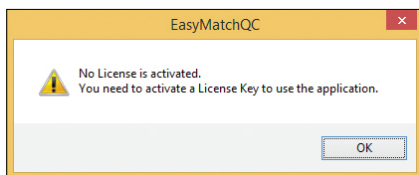

Figure 4. Warning Message for Key Activation
- A warning message to activate the license will be displayed as shown in Figure 4.